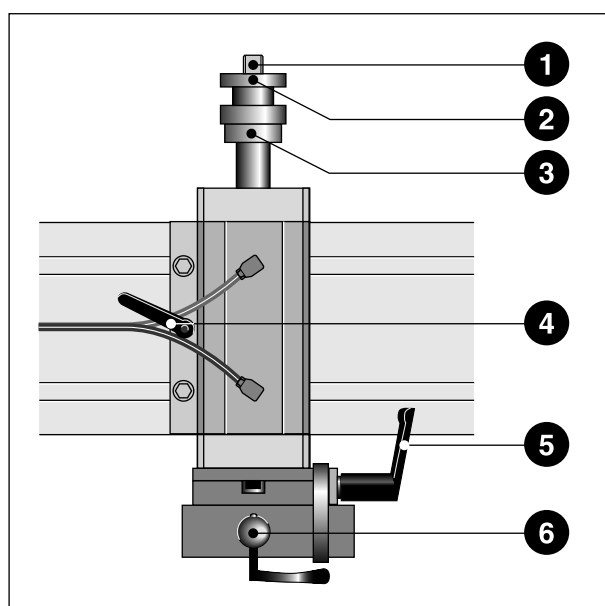

Figure 5-10. Flood bar cylinder
- \* Open the clamping levers (5, Figure 5-10) at both cylinders and set both hinged plates to the same angle (initial value: 70 °). Then tighten the clamping levers.
To prevent damage to the screen when the flood bar is lowered, you should choose an initial flood bar travel setting where the counter nut (2, Figure 5-10) is set at 15 mm on the scale 1.